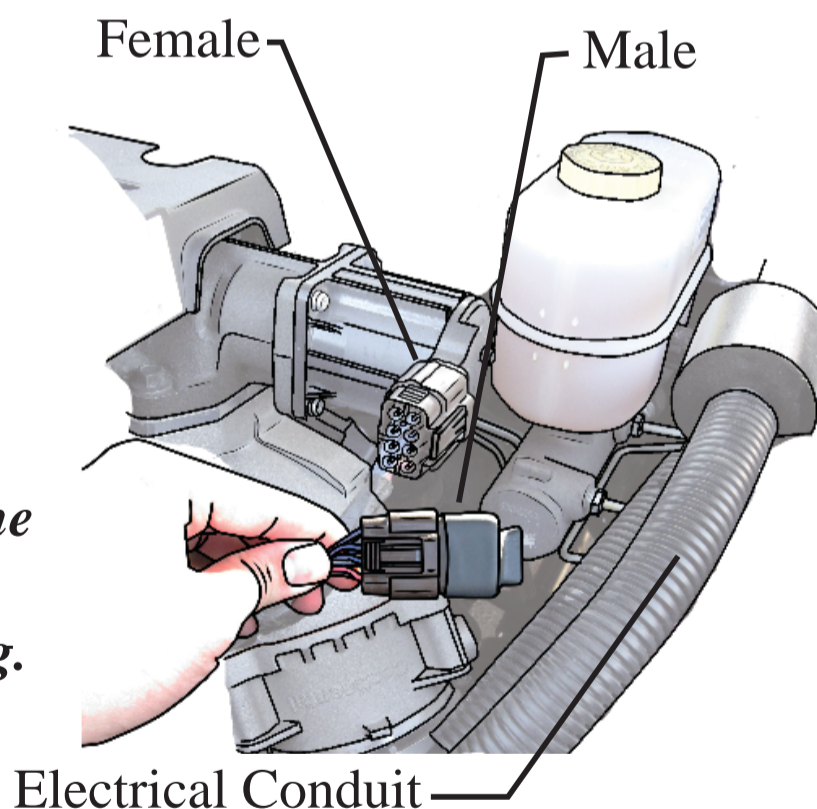

Figure 4 - Remove Harness
3. Plug the "Spoofer" into the EGR Sensor harness (See Figure 4).
4. Plug the Female connector into the EGR housing connector (See Figure 4).
5. Use a zip tie to strap the EGR Sensor Harness to the electrical conduit shown in Figure 4.